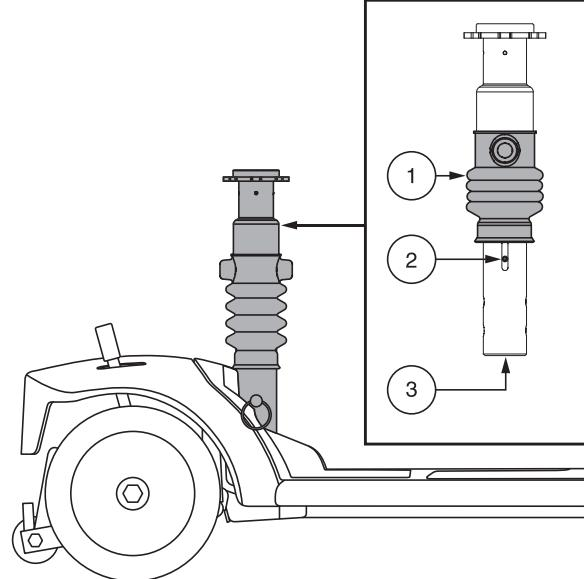

Figure 27. Seat Suspension Adjustment
The seat post acts as a shock absorber and can be adjusted for different degrees of ride comfort. Use the setscrews that are visible through the adjustment window on the side of the post as a guide when making adjustments. Slide the rubber boot towards the top of the post to expose the setscrews. **See figure 27.**
3. Insert a 13 mm socket with an extension into the bottom of the post. **See figure 27.**